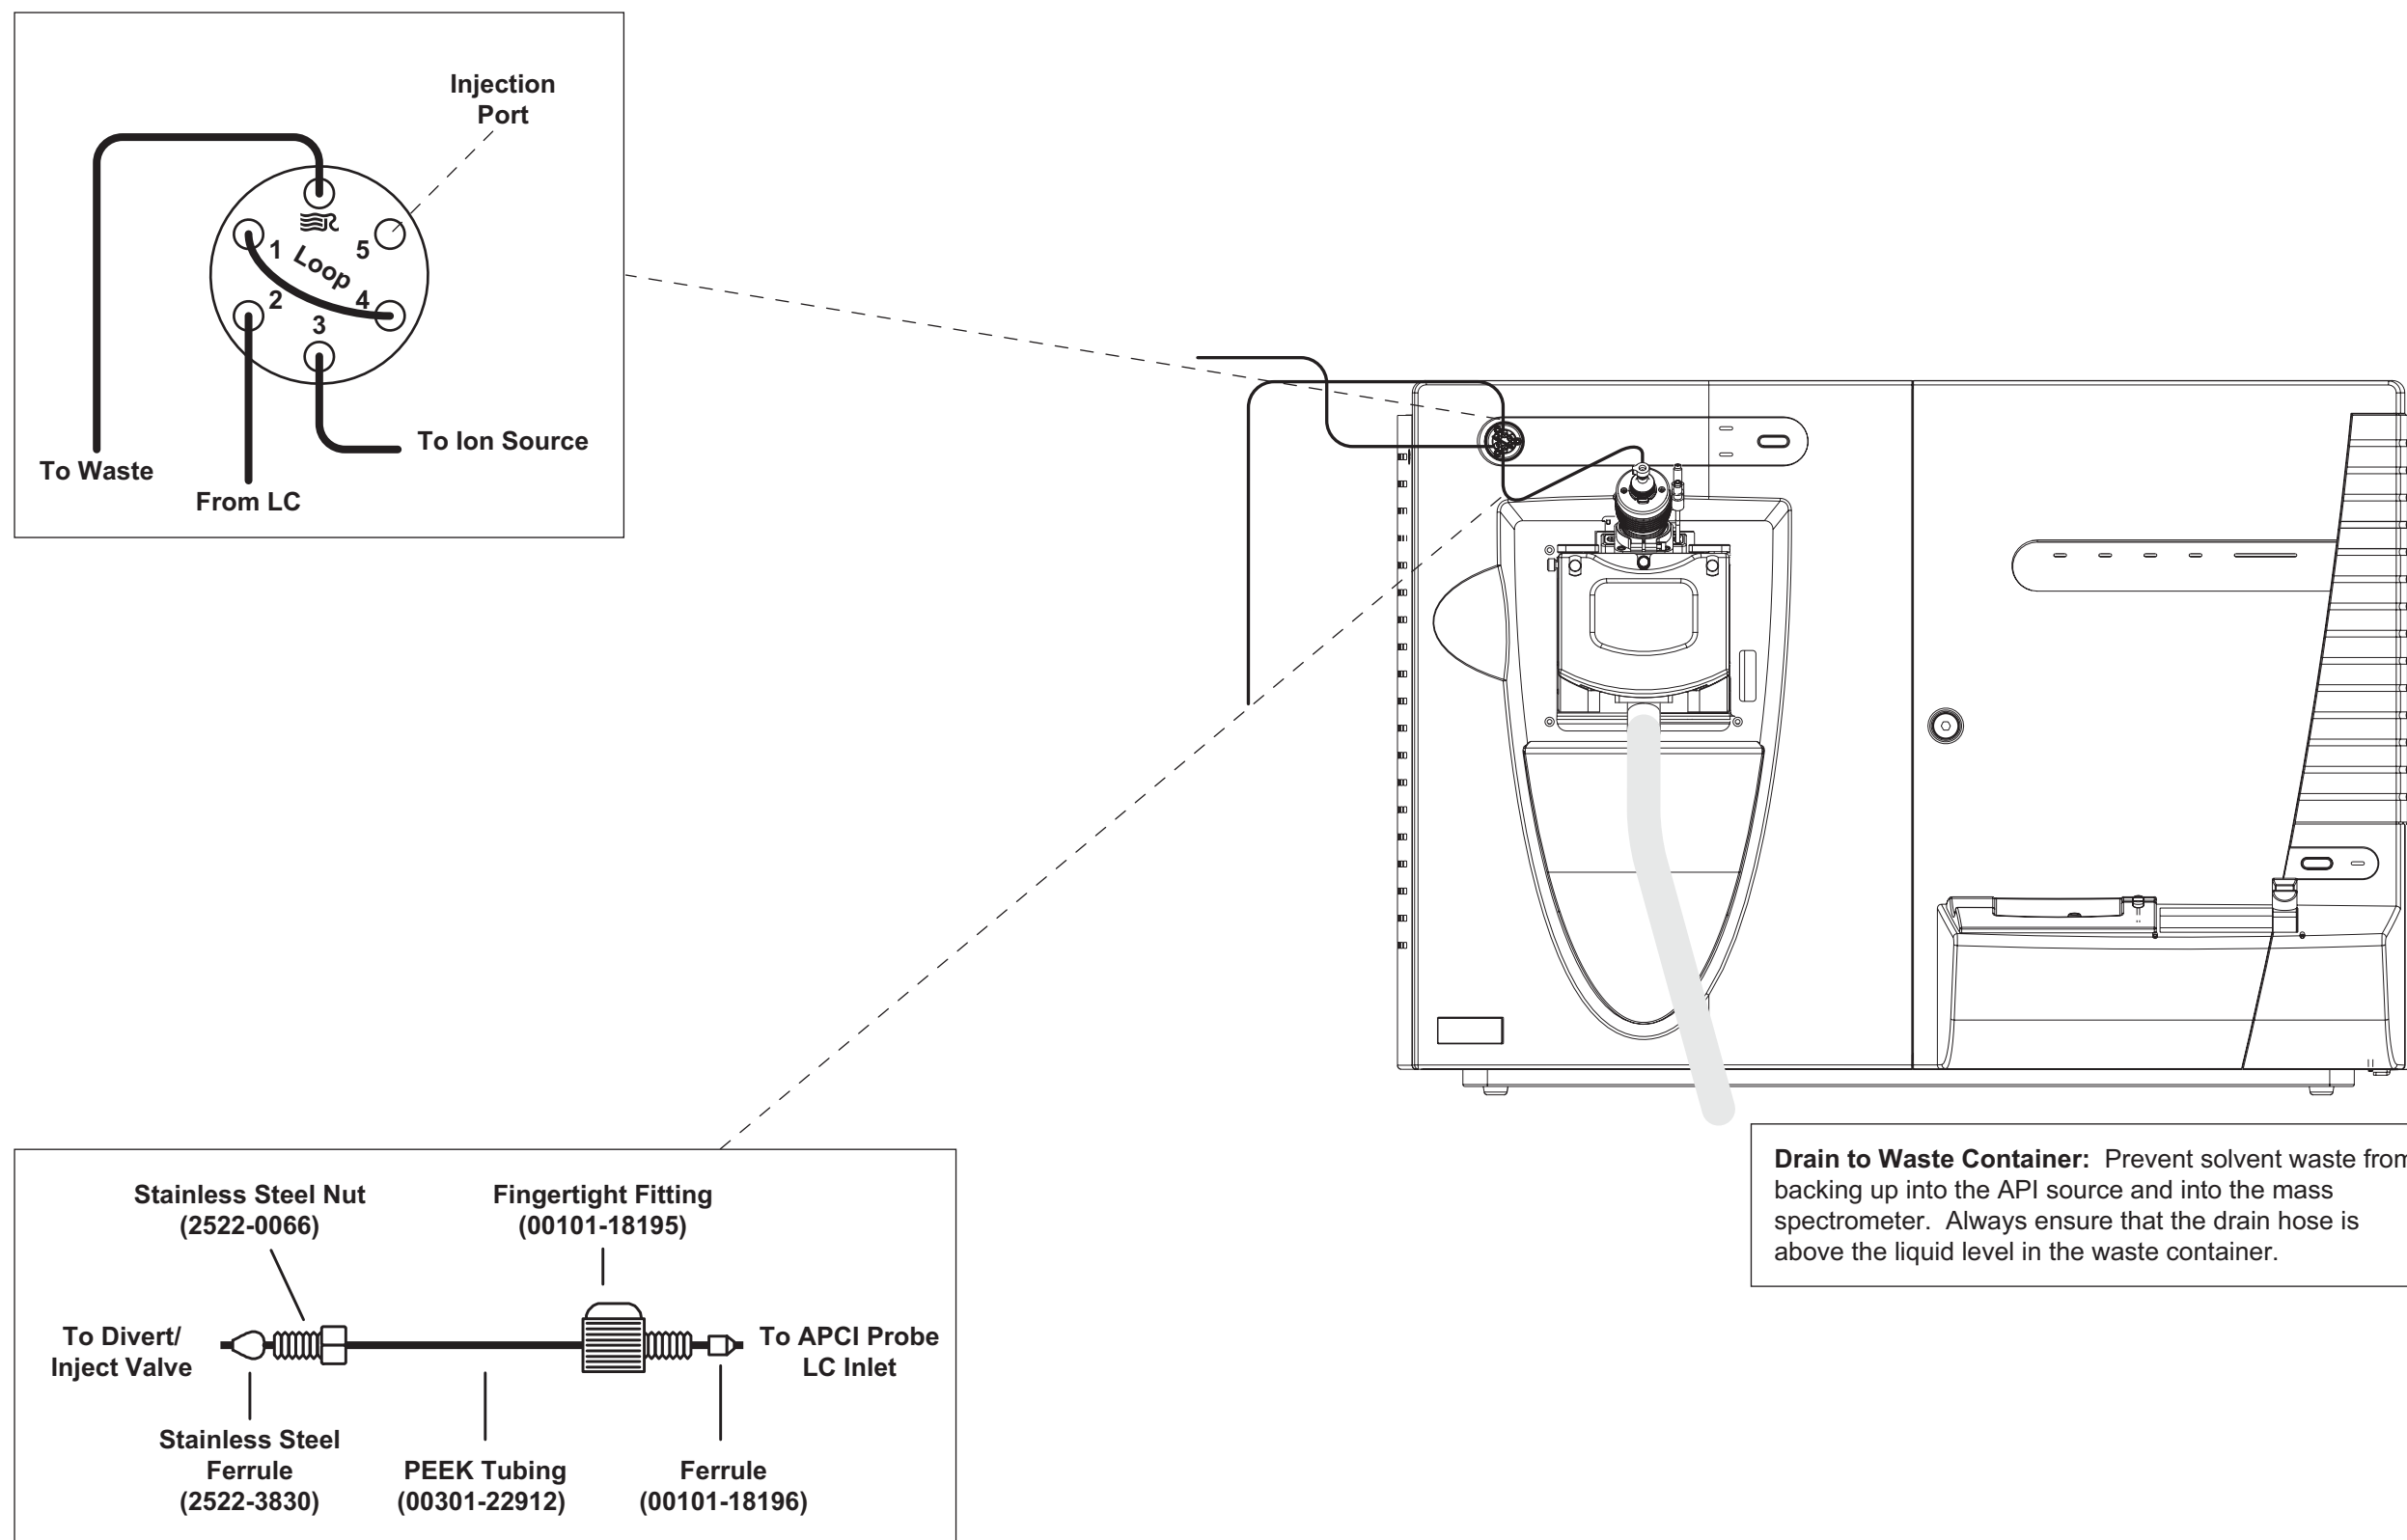

Figure 11-7. Plumbing diagram showing APCI/MS sample introduction by loop injection into the solvent flow from an LC
- Figure 11-7. Plumbing diagram showing APCI/MS sample introduction by loop injection into the solvent flow from an LC